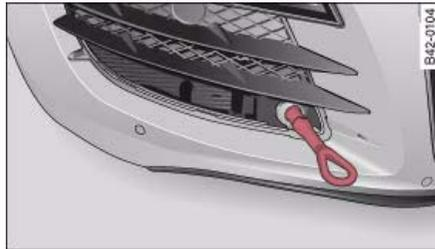

Fig. 132 Detail from front of vehicle, right side with air intake grille removed: Towline anchorage screwed in
- Screw the towline anchorage firmly all the way into the screw connection ⇒ *fig. 132*.